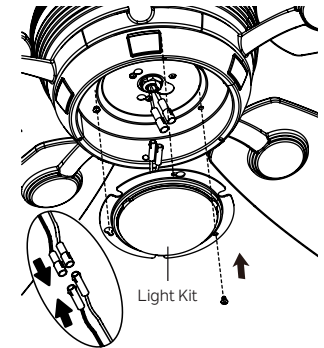

Fig. 23
**Step 2.** Connect the 2 single pin connectors from the light kit to the 2 single pin connectors from the motor assembly. Connect the black wire to black wire, and the white wire to white wire. Place the two slot holes on the light kit over the 2 screws previously loosened from the light plate. Rotate the light kit until it locks in place at the narrow end of the key holes. Securely tighten the 2 screws previously loosened and the one previously removed. (Fig. 23)